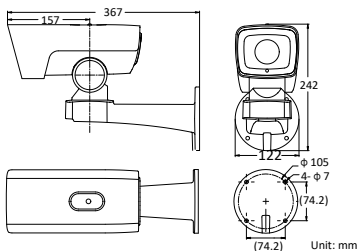

Figure 2-37 Wall-mounted PTZ Bullet Camera
- Dimensions of wall-mounted PTZ bullet camera is shown in Figure 2-37.